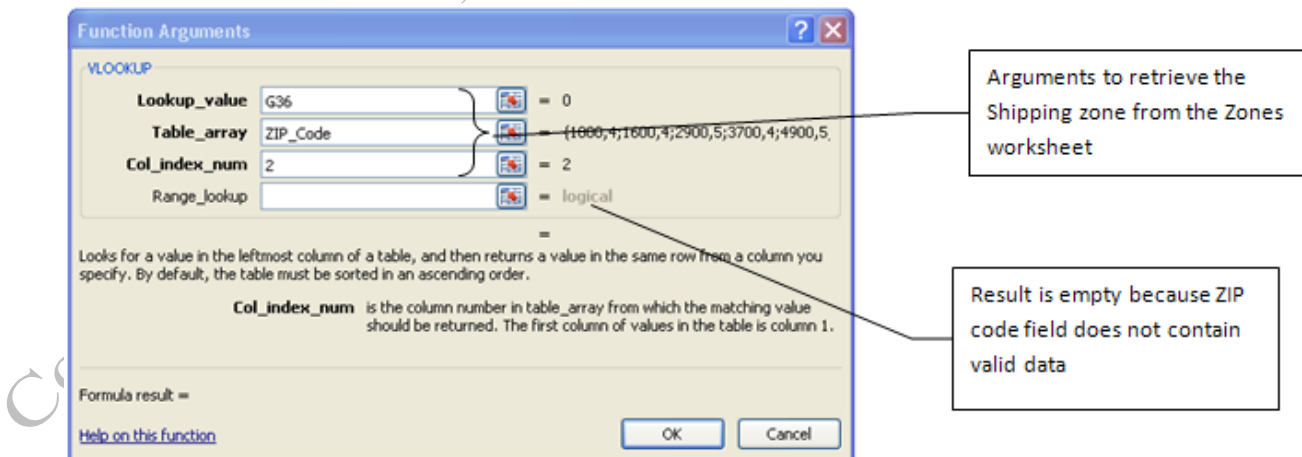

Figure 8.22. Vertical lookup used to retrieve the Shipping zone code
- In the VLOOKUP dialog box, click in the *Lookup_value* box and then click cell G36—ZIP Code. Press Tab, and in the *Table_array* box type **ZIP_Code**. Press tab and in the *Col_index_num* box type **2**. Compare your results with Figure 8.22.